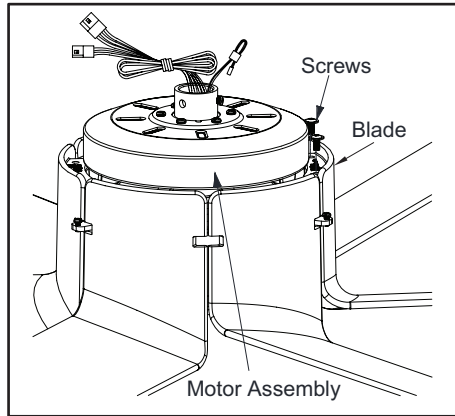

Figure 6
4. Make sure all the screws are firmly tightened. (Figure 6)